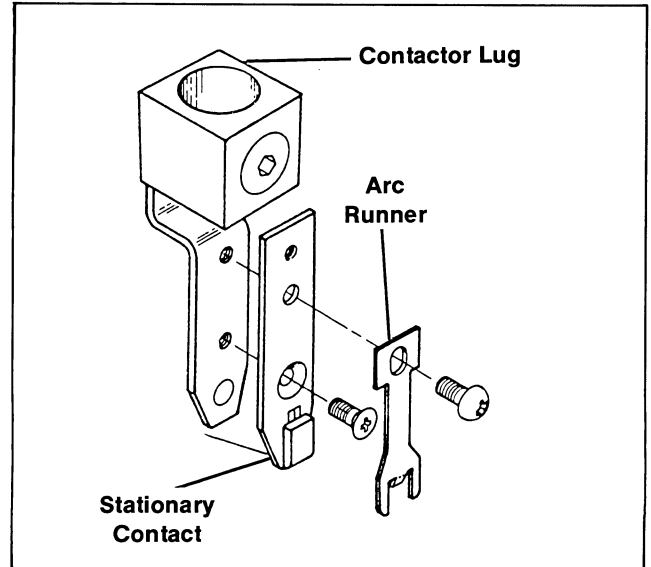

Figure 2-10. 225/260 Amp. Stationary Contact
- a. 225/260 Amp. — Remove arc runner screw and arc runner. See Figure 2-10.